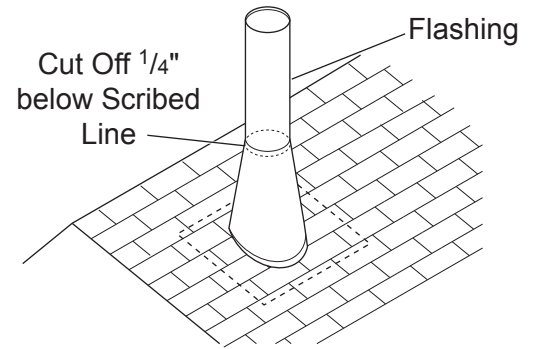
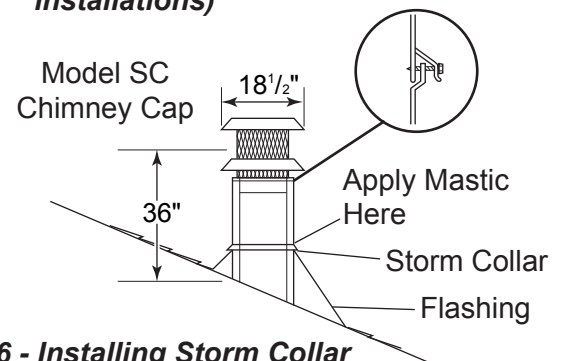

Figure 25 - Cutting Off Top of the Flashing
Figure 26 - Installing Storm Collar and Chimney Cap
3. Set the flashing on the roof. Scribe a line around the flashing. Cut $\frac{1}{4}$ " below the scribed line. This should increase the diameter of the flashing outlet enough to allow the flashing to be placed over the chimney. See Figure 25.
5. Nail the flashing securely in place with eight (8) nails.
8. Slide storm collar down snugly against the flashing until the excess mastic left in step six is forced up into crack between the storm collar and chimney. This will make the joint between the flashing and the chimney watertight. See Figure 26.